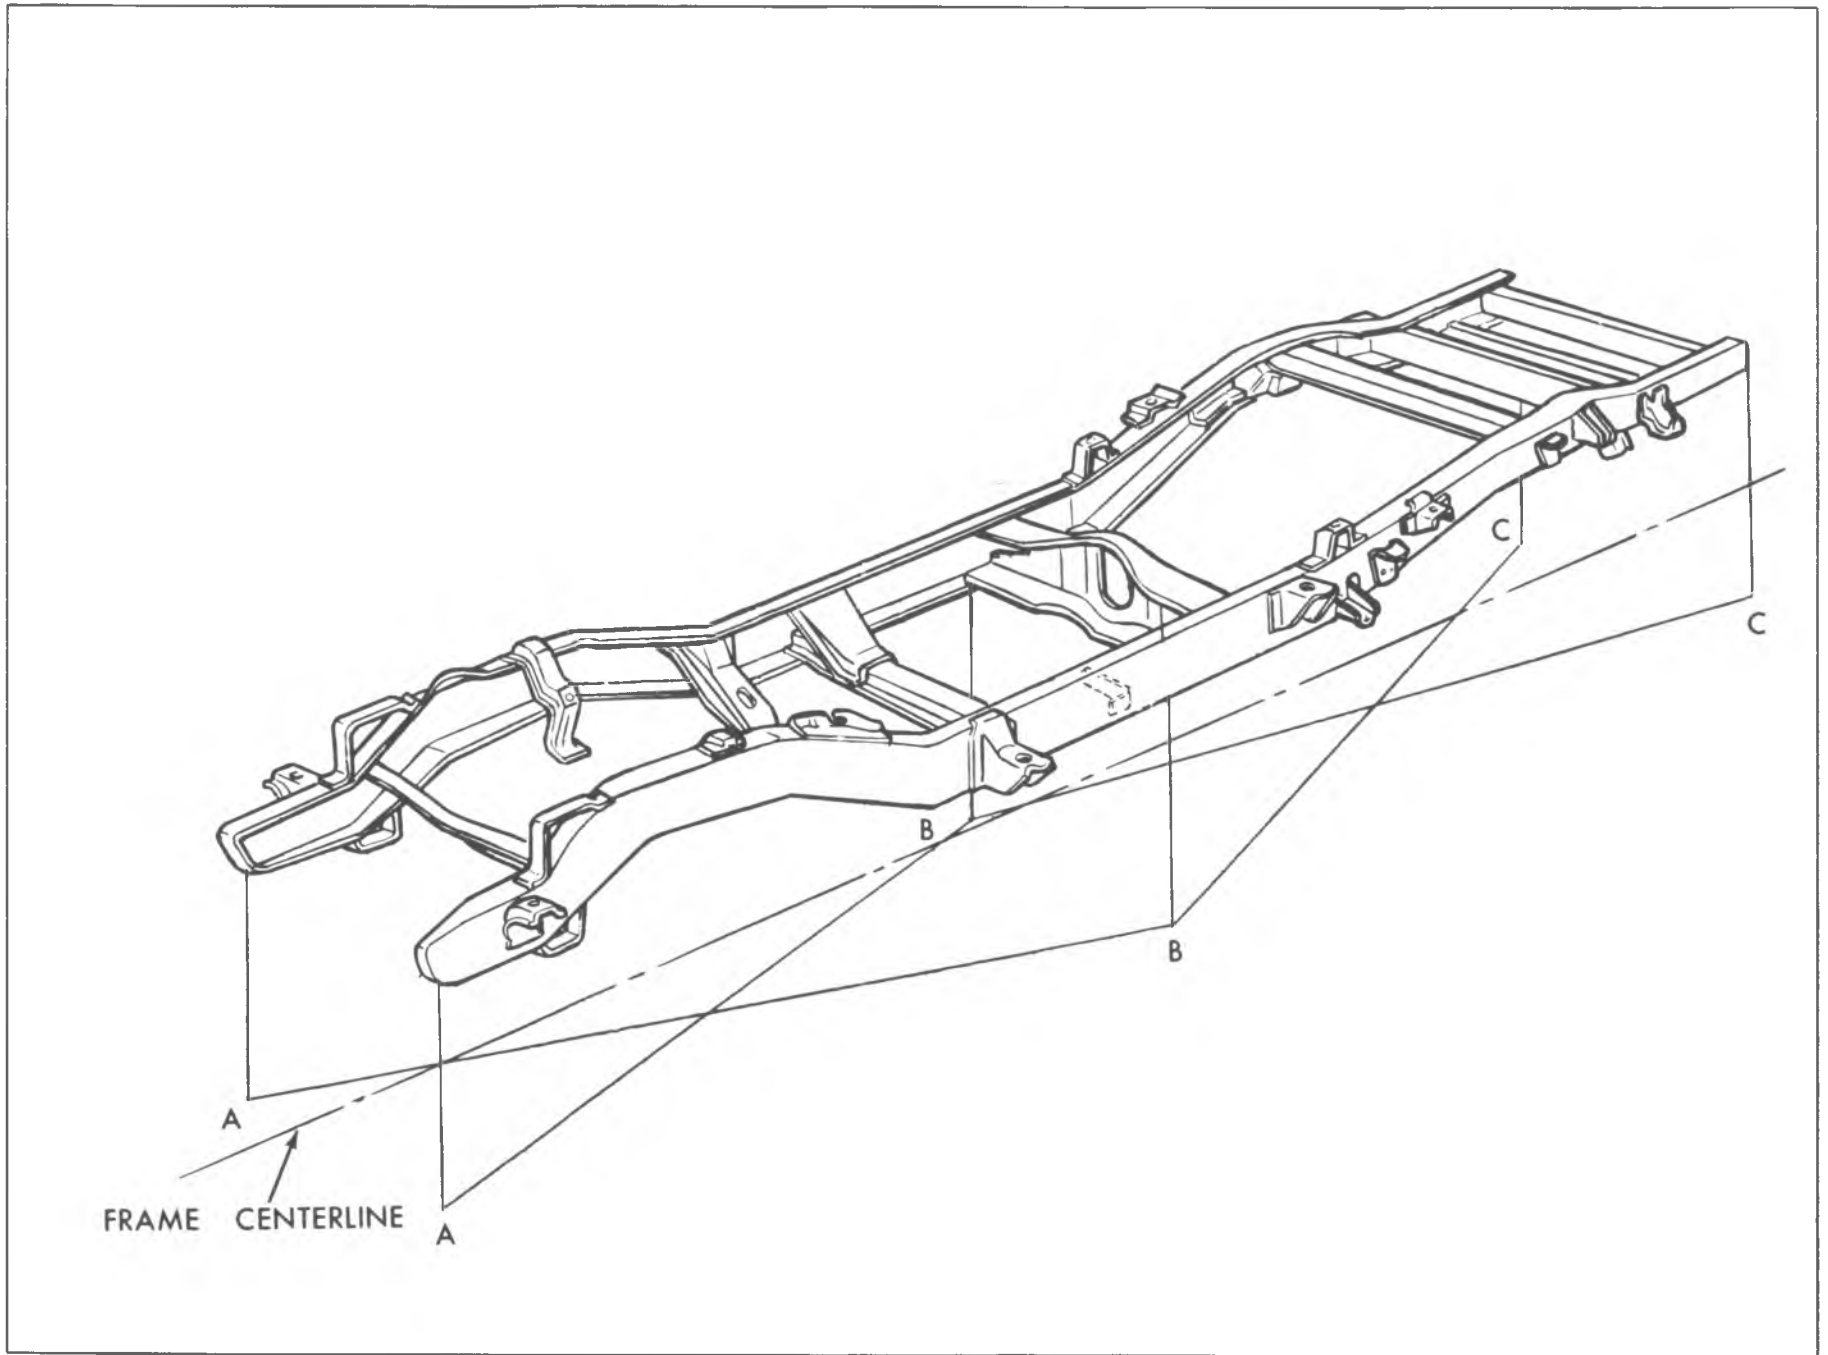

Fig. 2--Frame Horizontal Checking - Typical
Horizontal frame checking can be made with trammig gauges applied directly to the frame or by transferring selected points of measurement from the frame to the floor by means of a plum bob and using the floor layout for measuring. Figure 2 may be used as a general guide in the selection of checking points; however, selection of these points is arbitrary depending on accessibility and convenience. An important point to remember is that for each point selected on one side of the frame, a corresponding point on the opposite side of the frame
3. If a tram bar is used, for horizontal alignment "X" - check from opposite and alternate reference points AA, BB and CC, as illustrated by the lines in Figure 2. Error will result if a tram bar is not level and centered at the reference points.